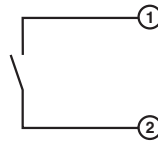
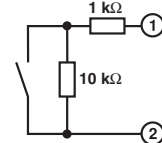

Figure 5 Switch contact with open circuit
Figure 6 Switch contact with resistance circuit
**NOTE:** For **switch contacts with open circuit** (Figure 5), line fault detection (DIP2 = I) must be disabled or the corresponding resistance circuit must be provided directly at the switch contact (Figure 6, e. g. UKK 5-2R/NAMUR (Order No. 2941662) with D-UKK 3/5 (Order No. 2770024)).